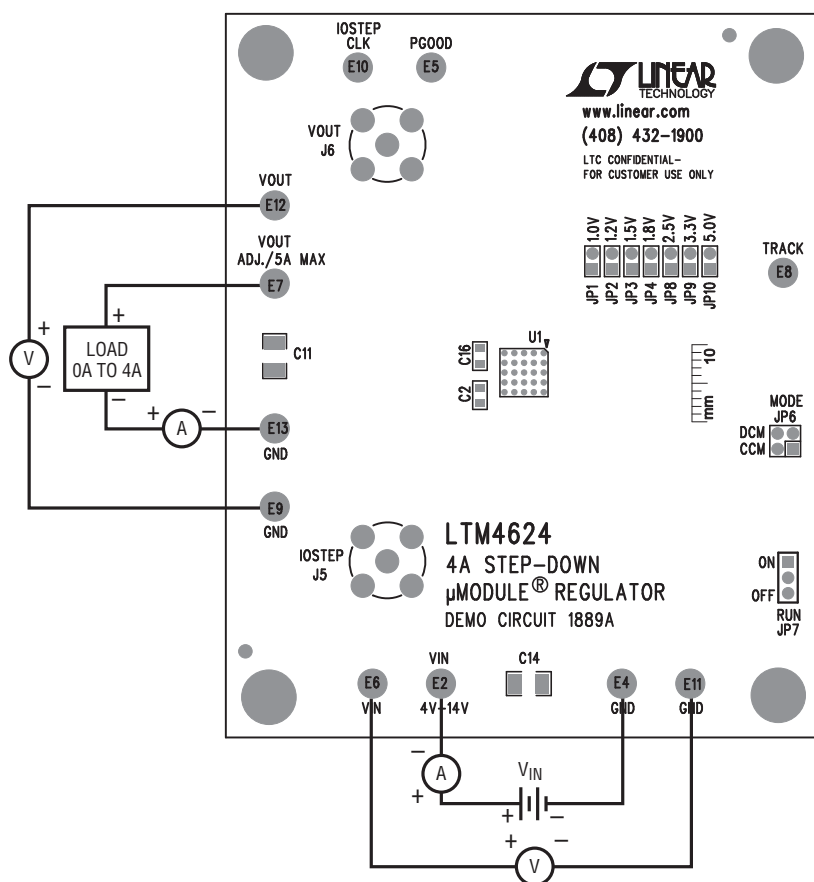

Figure 1. Test Setup
3. With power off, connect the load, input voltage supply and meters as shown in Figure 1.